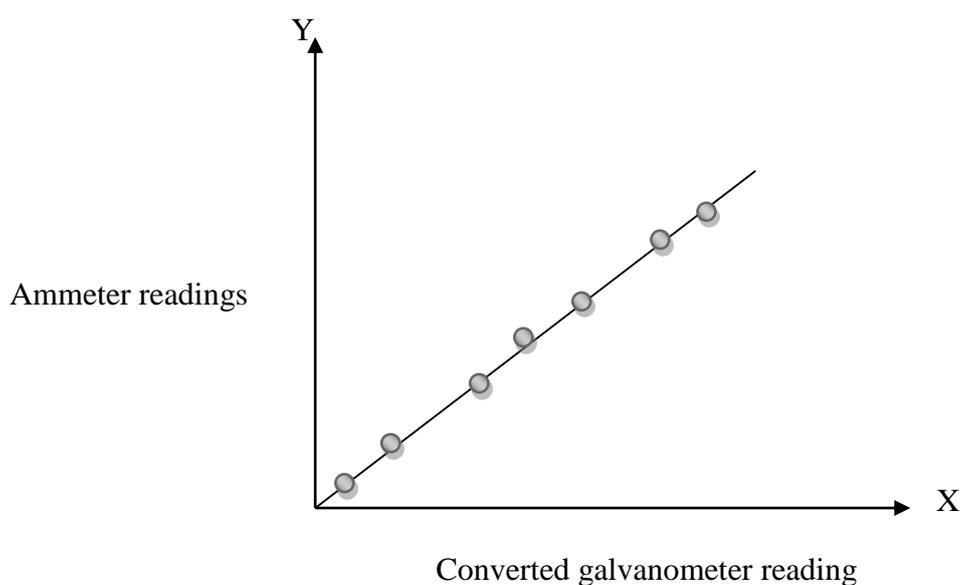

Figure 4
- (v) Plot a graph taking converted galvanometer readings as abscissa and corresponding ammeter readings as ordinates. The graph is shown in figure 4.